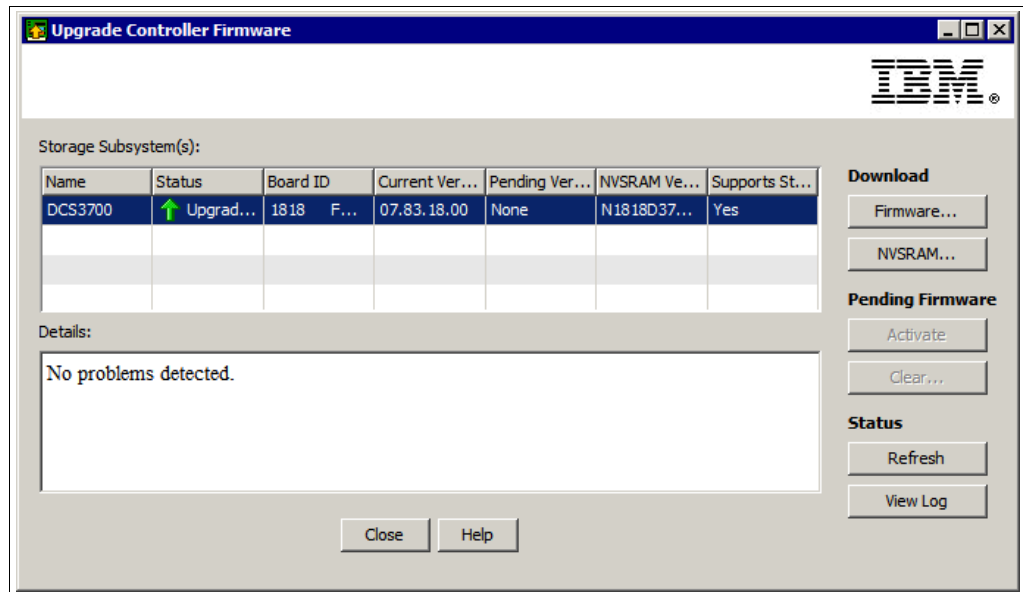
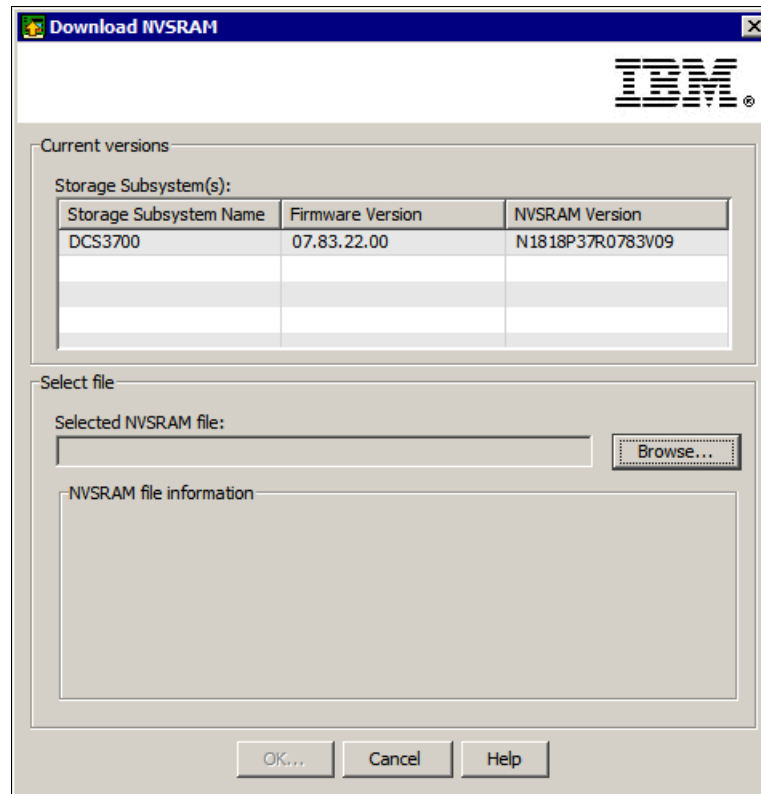

Figure 14-26 Status after the pending firmware is cleared
Figure 14-27 Download NVSRAM
- d. The Upgrade Controller Firmware window reports the status that is shown in Figure 14-26 after the firmware is cleared.
- Click **NVSRAM** in Figure 14-26. The Download NVSRAM window opens, as shown in Figure 14-27.